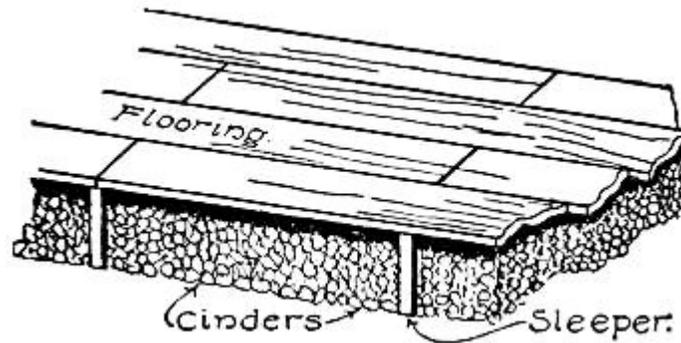

FIG. 186.—Construction of Floor.
**The Floor** should not be laid directly upon the ground, but be supported upon four-inch sleepers set as shown in Fig. 186, with cinders rammed in between them. The bed of cinders should not be more than three inches thick, so there will be an inch of air space between them and the floor. This will help to keep the floor free from